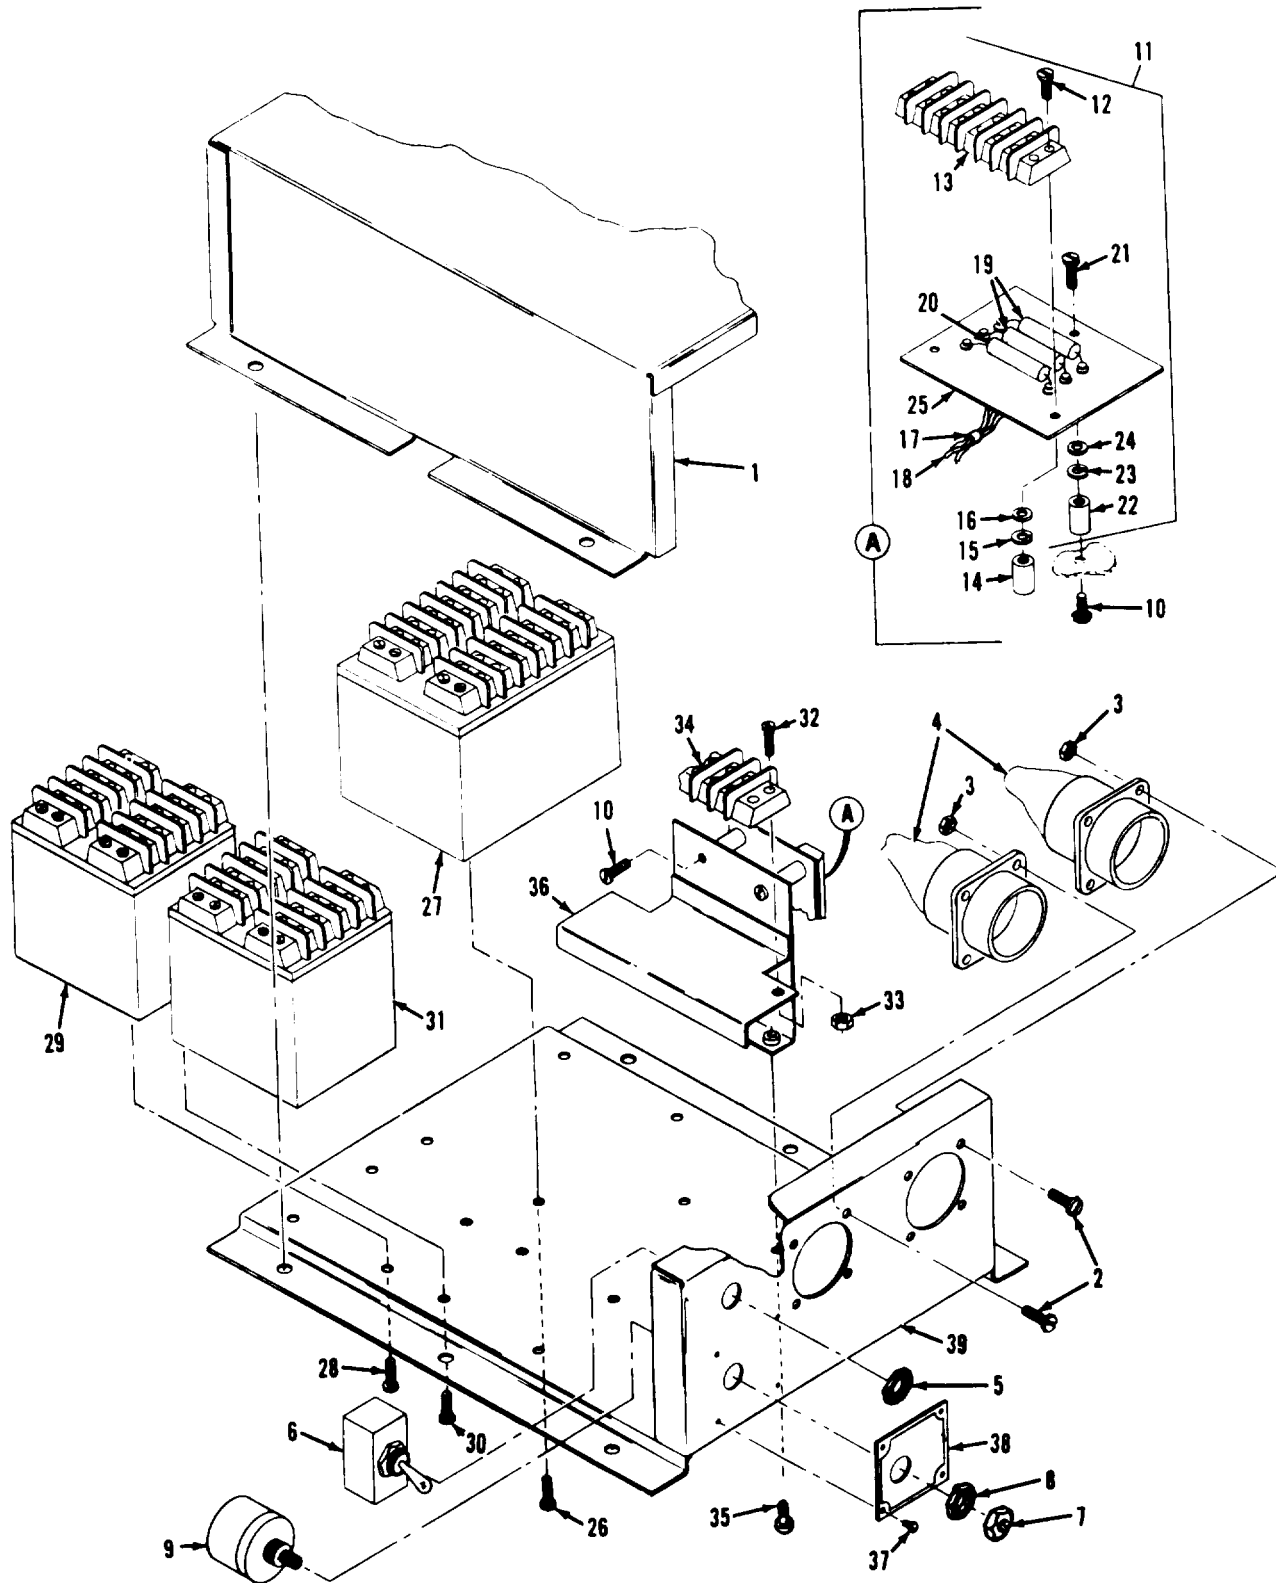

Figure 6-52. Precise relay box (A25), exploded view
c. Remove terminal board (TB3) and electronic components assembly (A6) and mounting bracket from the chassis as an assembly by removing two screw assemblies (35, figure 6-52).
d. Remove the three screw assemblies (7) securing the electronic components assembly (A6) to bracket (36).
Legend to figure 6-52: